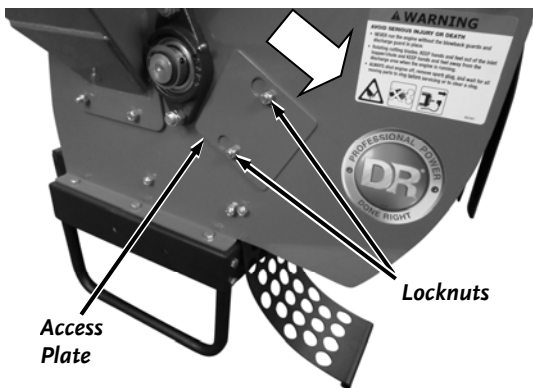

Figure 26
3. Loosen the Locknuts on the Access Plate and slide it to the side and remove (**Figure 26**).